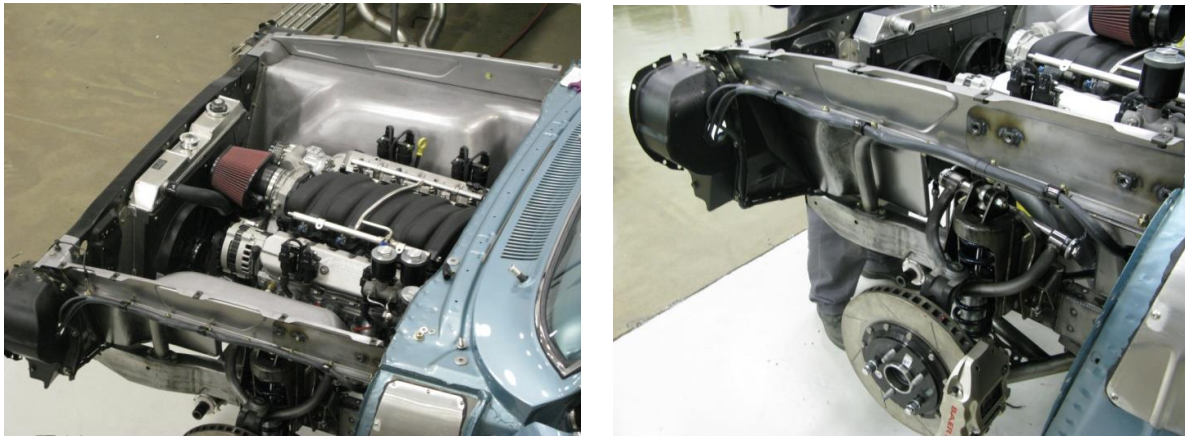

Figure 1: Inner fender attached to firewall and core support (1962-1965 shown)
- c) Use the included 3/8-16 x 3/4" L button head cap screws, 3/8-AN Flat Washers, and 3/8-16 Nylock Nuts to finish fastening the inner fender adapter panel to the lower inner fender. The screw heads should face **down** (Nuts on top) for these screws as well. Leave the two sections slightly loose for final adjustment on the car. Route any lines or wires you wish to hide inside of the inner fender at this time. See *Figure 1*.